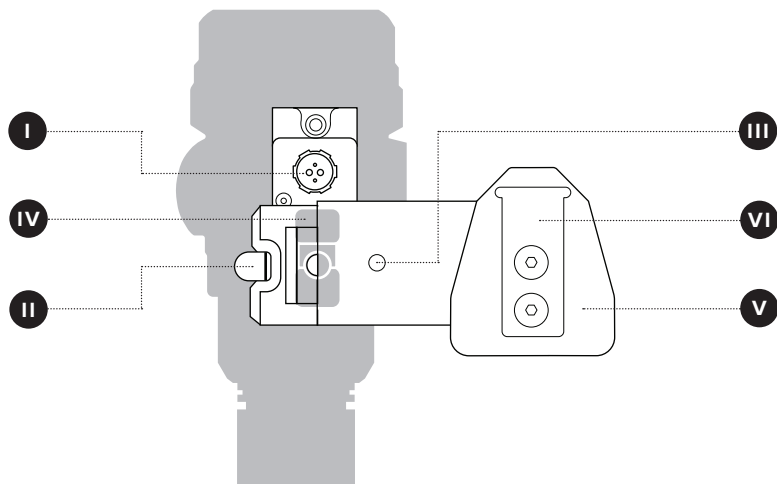

FIGURE 11:
1. Refer to **FIGURE 11**. Assemble an appropriate flip-style helmet mount if necessary. Cables must be routed correctly, to maximize performance and prolong cable life. **NOTE:** DO NOT BEND CABLES EXCESSIVELY.
2. Align mini rail receiver of swing arm to mini rail on OPSIN and slide straight back until locking arm clicks into place (see **FIGURE 11**).